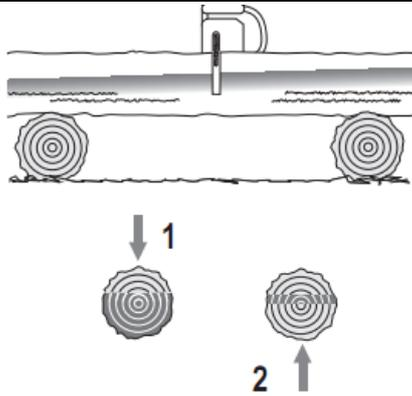

Fig.39
- 1) Make a cut from above to 1/3 of the diameter (fig.39).